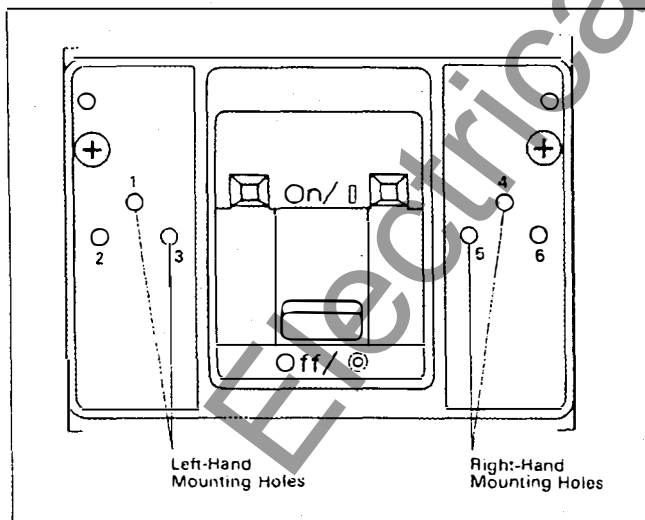

Fig. 2-1 Mounting Hole Locations (K-Frame Shown)
- 2-1. Mounting holes are located in the cover under the nameplate. Find the mounting holes using the locating marks in the nameplate. (See Fig. 2-1).